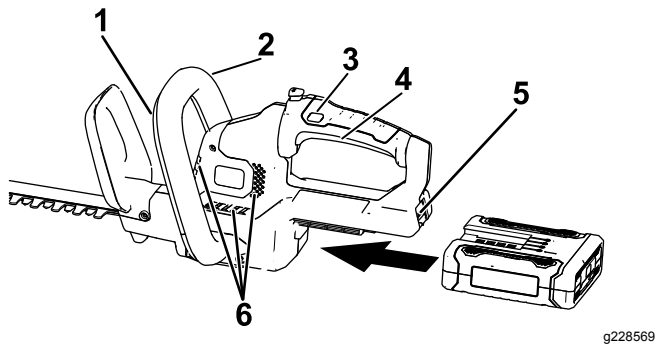

Figure 4
3. Align the cavity of the battery pack with the tongue in the handle housing, grasp the handle, and push the battery pack into the handle until the latch locks into place (Figure 4).
4. Place 1 hand on the trigger handle. Place the other hand on the auxiliary handle (Figure 4).
5. Press the lock switch and then squeeze the trigger switch while engaging the auxiliary-handle switch to turn on the hedge trimmer (Figure 4).
The trimmer stays on as long as the auxiliary-handle switch is engaged and the trigger is squeezed. You may release the lock switch once the hedge trimmer is running (Figure 4).
To shut off the hedge trimmer, release the trigger or auxiliary-handle switch, or both (Figure 4). Allow at least 5 seconds for the cutting blade to stop moving.